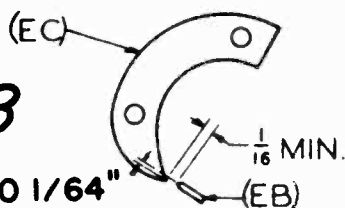

FIG. 9
Place a 12-inch record over the turntable spindle so that the record rests on the shelf plates. Then check the center plate lifter lever (EB) and see that point of this lever will just slide inside of the lifter cam (EC) as shown in Figure 8. Then place a 10-inch record under the 12-inch record so that the 10-inch record will rest on shelf plate (BC) and the 12-inch record will then touch center plate (BB). The lever (EB) should then follow the outside of the lifter cam (EC) as shown in Figure 9. If it is necessary to readjust this can be done by means of the adjusting screw (CE) and lock nut (CF).